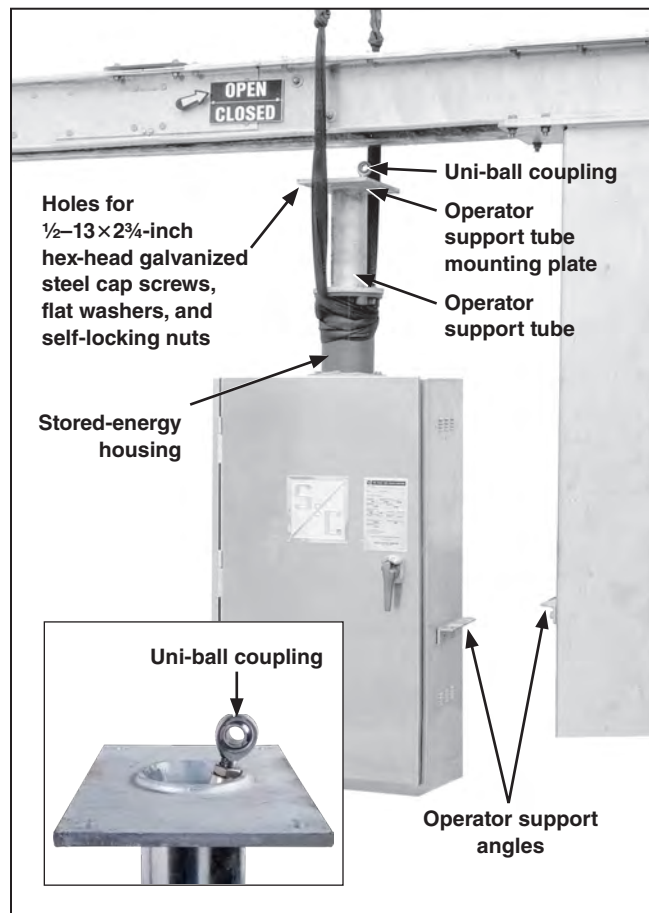

Figure 10. Hoisting the operator into position below the high-speed base using a lifting crane.
- STEP 3.** Remove the skid and bracing running the length of the operator, stored-energy housing, and operator support tube. See Figure 9. Also remove the protective packing on top of the operator support tube as well as the protective covers on the operator enclosure louvers. See Figure 9 and Figure 10.
- STEP 4.** Reposition the lifting sling around the front of the stored-energy housing and wrap another lifting sling around the back of the stored-energy housing, as shown in Figure 10. Face the operator door the same direction as the SWITCH POSITION indicator on the high-speed base. Hoist the operator into place.
STEP 6. Attach the operator support angle to the appropriate mounting pedestal using two $\frac{5}{8}$ -11 \times 14-inch hex-head galvanized steel cap screws, four flat washers, and two self-locking hex nuts. Refer to the catalog drawing for exact placement. See Figure 10 on page 14.